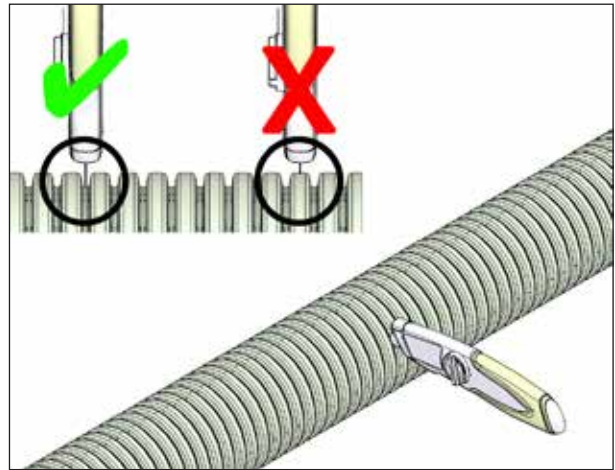

Fig. 3: Cutting flexible pipe to length
- ▶ Always cut flexible pipes to length in the “valleys” (see Fig. 3) using a suitable tool (e.g. cutter).